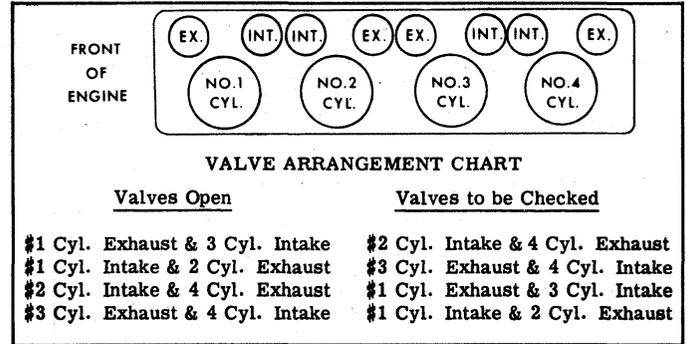

Figure 30—Valve Initial Adjustment Chart
7. Refer to Figure 30 and make an initial valve adjustment as indicated in the chart.